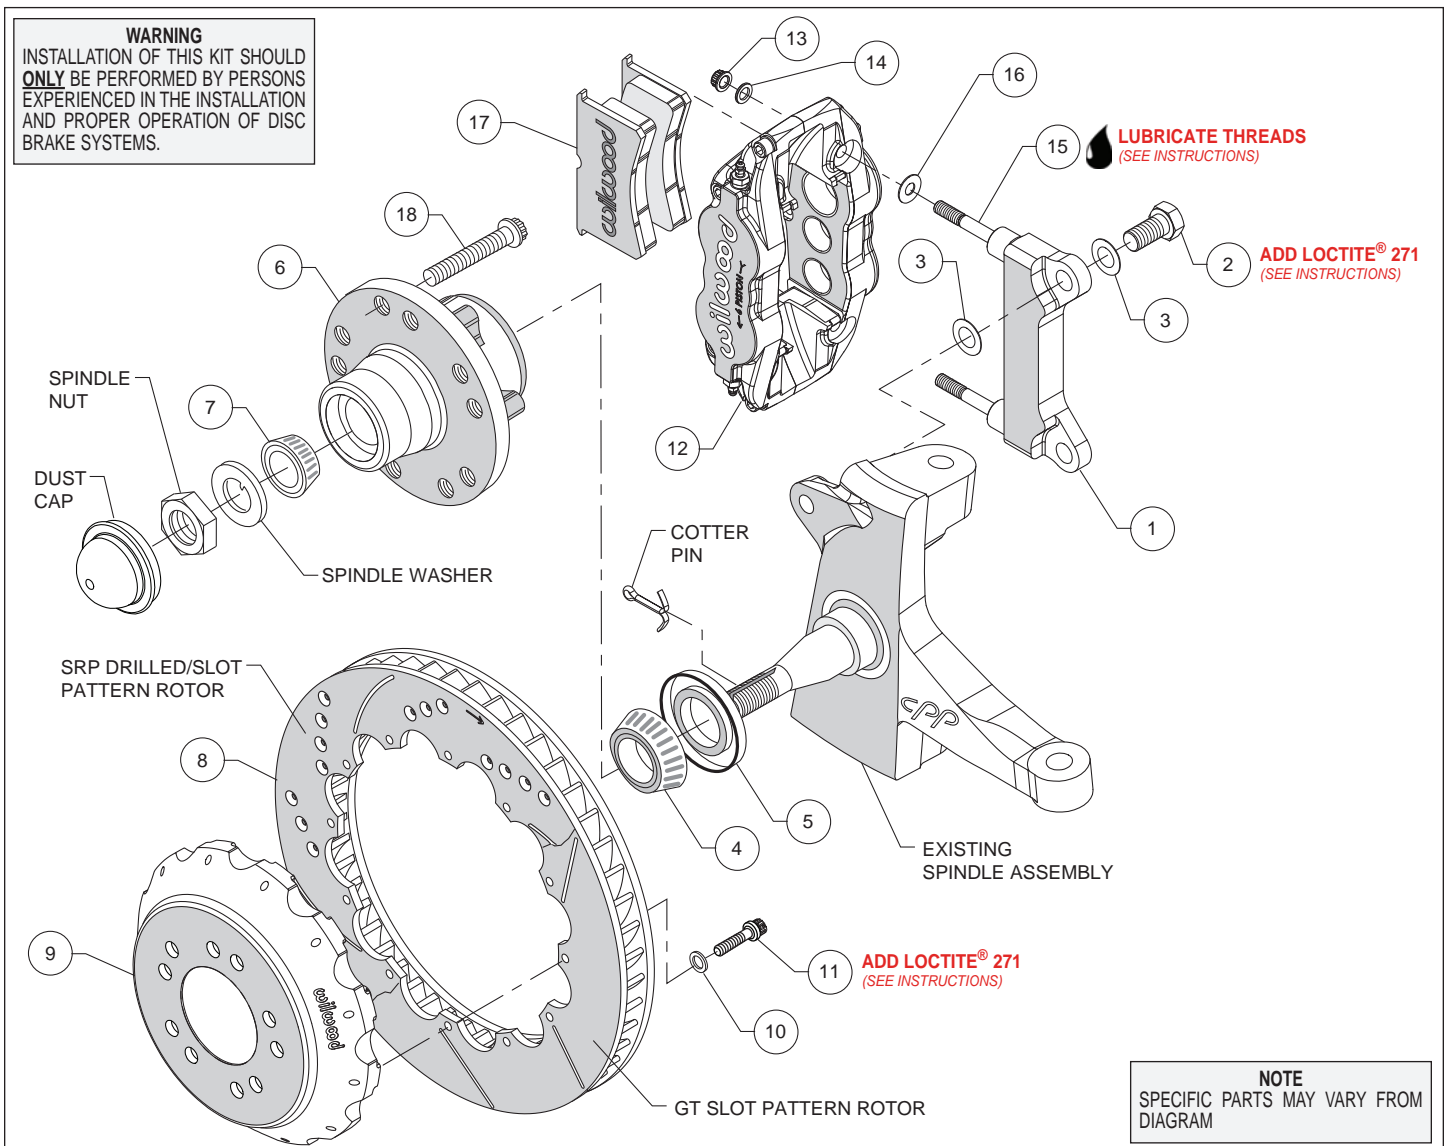
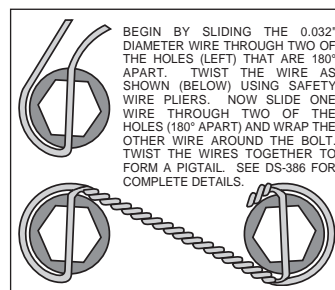

Figure 1. Typical Installation Configuration
Figure 3. Safety Wire Diagram
### Assembly Instructions (numbers in parenthesis refer to the parts list and Figure 1 on the preceding pages):
- The caliper mount bracket (1) should initially be installed with clean, dry threads on the mounting bolts. Orient the bracket, as shown in Figure 1, and install using bolt (2) and washer (3). Initially place one .024" thick shim (3) on each bolt between the bracket and upright, Figure 1. Temporarily tighten the mounting bolts. **NOTE:** The bracket must fit squarely against the mount bosses on the upright. Inspect for interference from casting irregularities, machining ridges, burrs, etc. Later, after the caliper alignment has been checked, the mount bolts will be secured using red *Loctite*® 271.
- Install wheel studs (18) into the hub (6), Photo 1. Torque to 77 ft-lb. **NOTE:** There are two five lug patterns in the hub (5 x 4.75 and 5 x 5.00). Ensure the correct hub stud pattern is being used to fit the wheel application.
- Orient the rotor (8) and the hat (9) as shown in Figure 1 and Photo 4. Attach rotor to hat using bolts (11) and washers (10). Using an alternating sequence, apply red *Loctite*® 271 to the threads, and torque to 155 in-lbs. For an added measure of security, the bolts may be safety wired using standard 0.032 inch diameter stainless steel safety wire as shown in Figure 3. Refer to Wilwood's data sheet DS-386 (available at [www.wilwood.com/Pdf/DataSheets/ds386.pdf](http://www.wilwood.com/Pdf/DataSheets/ds386.pdf)) for complete safety wire installation instructions.
- Pack the small outer bearing cone (7) with high temperature disc brake bearing grease and install into hub (6). Slide the hub assembly onto the spindle. Secure using spindle washer and spindle nut, Photo 5. Adjust bearings per OEM specifications. Install a new cotter pin.
- Press the dust cap into the hub (6).
- Slide the hat/rotor assembly (8/9) onto the hub (6). **NOTE:** The hat must fit flush against the hub face or excessive rotor run out may result.
- NOTE:** This kit contains distinct right and left hand calipers that must be mounted in a specific direction, as described below. Lubricate the caliper mounting studs (15) with lightweight oil. Initially place one .035" thick shim (16) on each stud as shown in Figure 1 and Photo 6. Mount the caliper (12) onto the bracket (1)
using lock nuts (13) and washers (14), Figure 1. Ensure that the caliper is mounted so that the largest pistons are at the rotor exit end of the caliper, in relation to the direction of rotor rotation. Temporarily tighten the lock nuts and view the rotor through the top opening of the caliper. The rotor should be centered in the caliper, Photo 7. If not, adjust by adding or subtracting shims (3) between the bracket and the upright. Always use the same amount of shims on each of the two mounting bolts. Once the caliper alignment is correct, remove the bracket mounting bolts one at a time, apply red *Loctite*® 271 to the threads, and torque to 120 ft-lb.